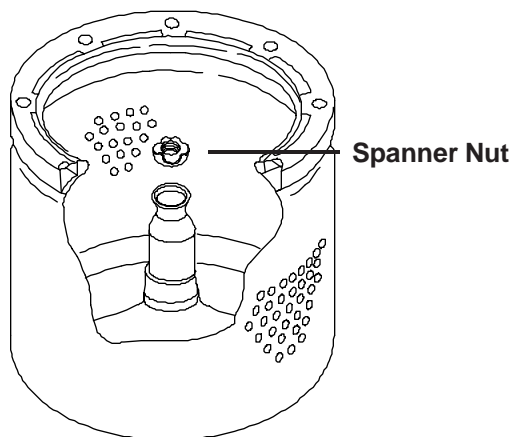

Fig. 3-16
4. Complete the removal of the basket by loosening the spanner nut on the spin tube and expand the drive block with a wide bladed screw driver. (Fig. 3-16) The basket can now be lifted straight up and out of the tub.